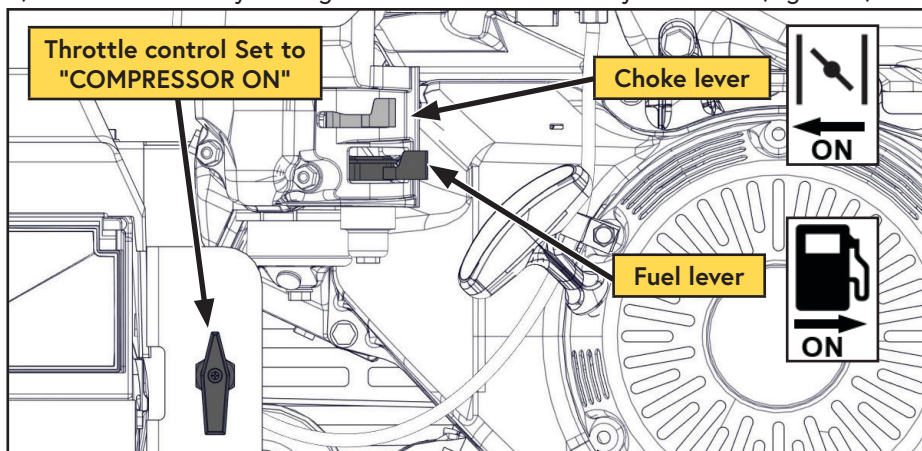

Figure 19 — Fuel and choke levers
- 4) Close the choke by moving the choke lever all the way to the left (Figure 19).
- 5) Turn on the fuel by moving the fuel shut off lever all the way to the right (Figure 19).